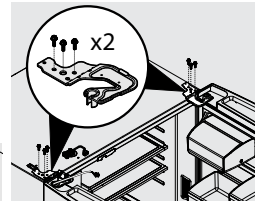

Figure 4
4. Remove three 8mm bolts from both top hinges. See Figure 4. Lift doors up off lower hinges and carefully set aside.